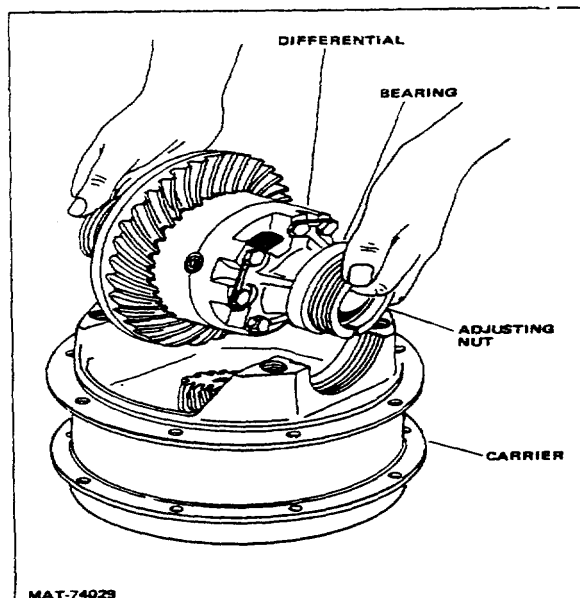

Figure 5-2. Removing Differential from Carrier
- b. Remove differential assembly (Fig 5-2) along with bearing cones, cups, and adjusting nuts from carrier housing.